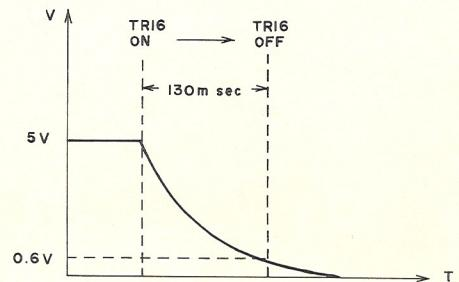

Fig. 5-6 Voltage at the Collector of TR16
3) In the cases when the CUT or UP button is depressed or Auto Lead-in is activated, IC5 pin ④ becomes "H" (IC5 pin ⑤ is still "H") so TR17 & 18 are turned "OFF" and TR15 & 16 are turned "OFF" after 130 msec (so that MUTE works before the Tone Arm rises) by C37 as shown in Fig. 5-6.